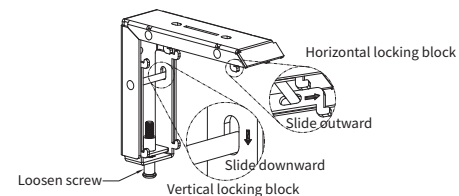

Figure 6
3. Before installation, loosen the crosshead screw counterclockwise to release the vertical locking hook and slide it downward toward the edge of the elongated slot. Then, slide the horizontal locking block outward to the outer edge. (See Figures 6–7)